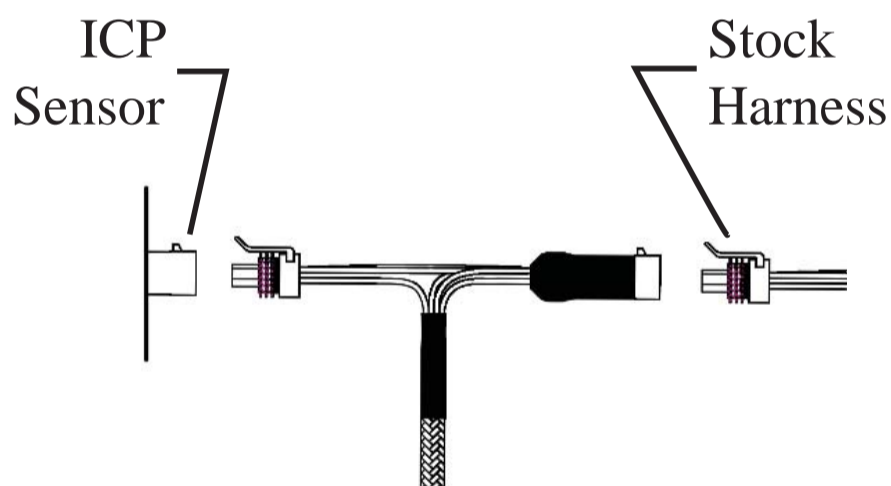

FIGURE 6 - "T" ASSEMBLY
1. Connect the ICP connectors in between the stock harness and the sensor. See Figure 6.